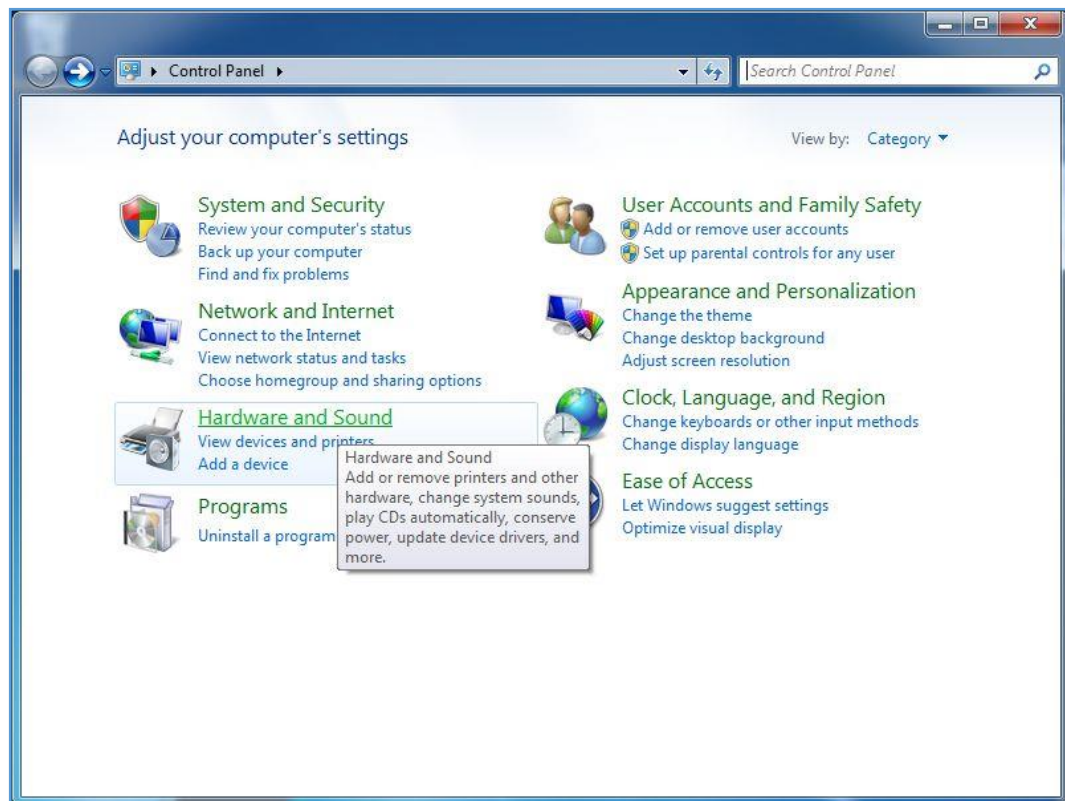

Figure A-7: Control Panel
- Select the option to locate and install software as shown in Figure A-7.